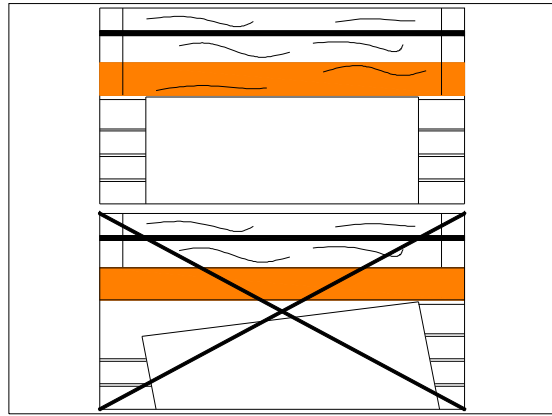

Figure 25
9. Align the leading edge of the item parallel to the heat roller nip (Fig. 25).